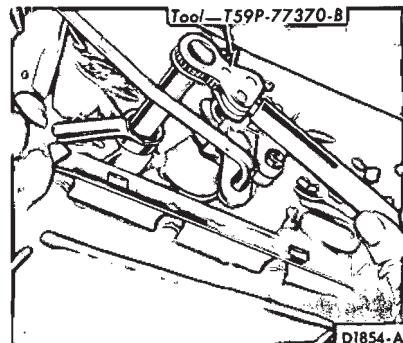

FIG. 18—Adjusting Intermediate Band
2. Install a new locknut on the adjusting screw. With the tool shown in Fig. 18, tighten the adjusting screw until the tool handle clicks. The tool is a pre-set torque wrench which clicks and breaks when the torque on the adjusting screw reaches 10 ft-lbs.